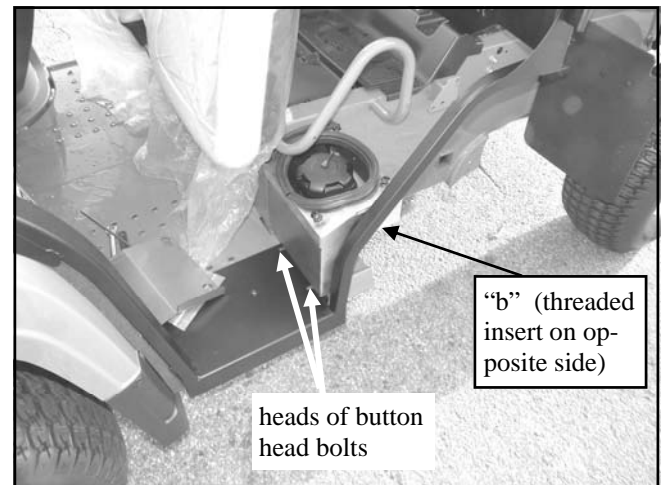

Fig. 7.2
7.2 With assistance, install the left side frame so that the vertical bent lip on the floorboard is in front of the fuel cap assembly. Use care to avoid damaging or distorting the expand-a-foam that seals against the front fender. See figure 7.2.
7.3 The floorboard gets three carriage bolts 5/16 x 1" long, three steel washers, and three locknuts. Washers and locknuts go underneath the vehicle. See fig. 7.2.
7.4 Connect the fuel cap assembly to the floorboard using two button head bolts 5/16 x 3/4" long, four steel washers, and two locknuts. Bolt heads to be towards the front of the vehicle as shown in fig. 7.2.
7.5 Connect the fuel cap assembly to the side frame tube with one button head bolt 5/16 x 3/4" long and one steel washer. There is a factory installed threaded insert on the inside surface of the side frame tube in vicinity "b" in fig. 7.2.